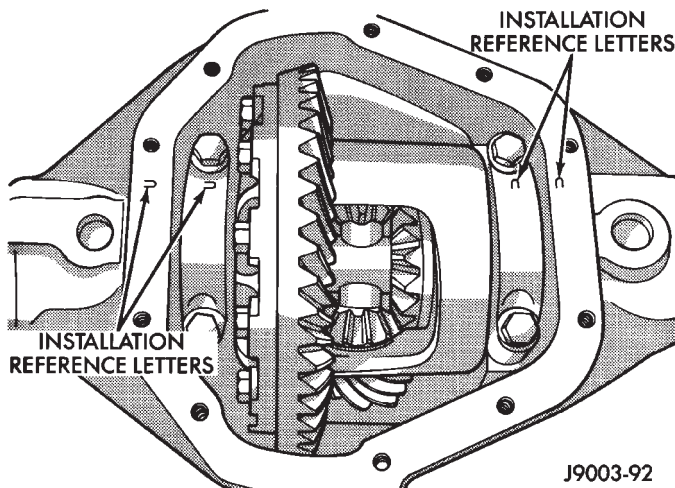
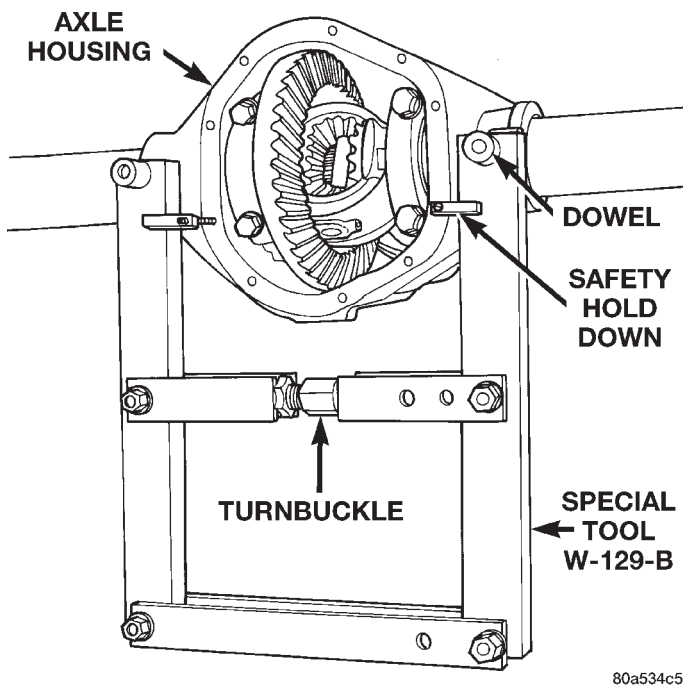

Fig. 23 Bearing Cap Identification
Fig. 24 Install Axle Housing Spreader
(5) Note the installation reference letters stamped on the bearing caps and housing machined sealing surface (Fig. 23).
(6) Loosen the differential bearing cap bolts.
(7) Position Spreader W-129-B, utilizing some items from Adapter set 6987, with the tool dowel pins seated in the locating holes (Fig. 24). Install the hold-down clamps and tighten the tool turnbuckle finger-tight.